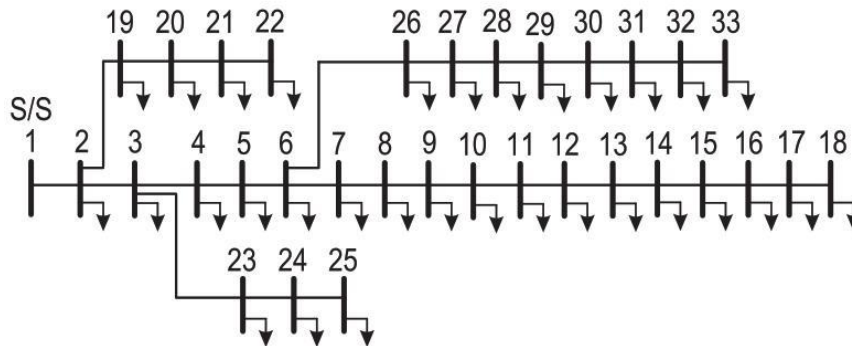

Figure 1. Single-line diagram of IEEE 33-bus distribution system.
1. Consider the IEEE 33-bus distribution network of Figure 1, along with the data in Table 1.